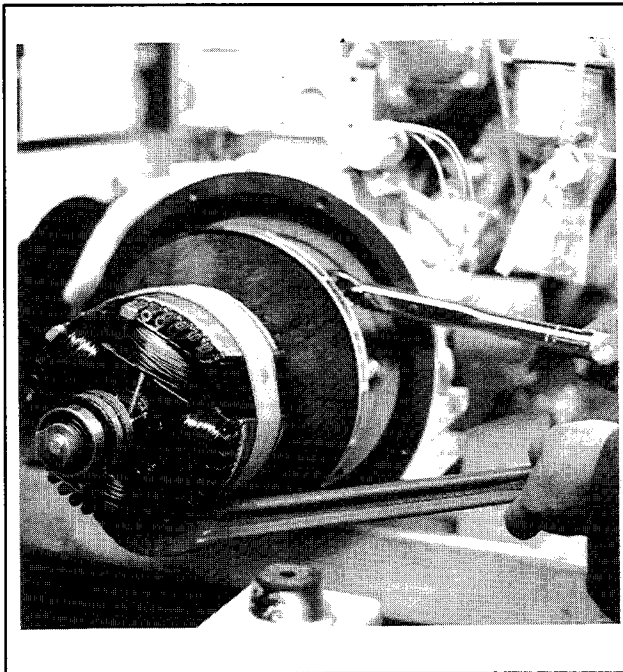

Figure 8-18. Attaching Rotor/Drive Discs
2. Install drive discs (2) to rotor using eight screws. Torque screws to 540 in. lbs. (61 Nm).
6ROY/RFOY and 10ROY/RFOY Models: Secure rotor/drive discs (2) to flywheel with eight bolts and spacers. Torque bolts to 168 in. lbs. (19 Nm). See Figure 8-18.